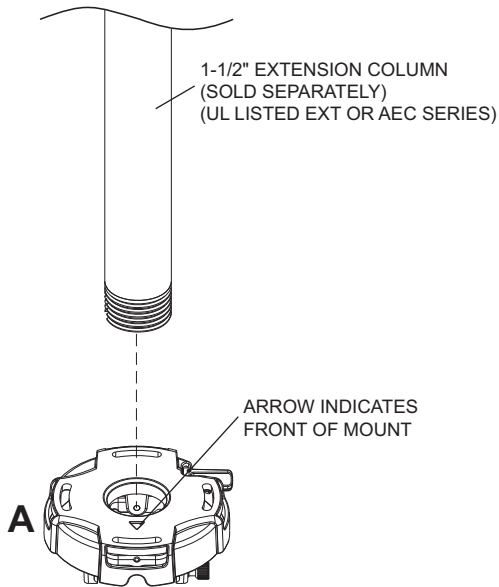

fig. 1.1
Screw projector mount assembly (A) onto extension column as shown in **figure 1.1**.